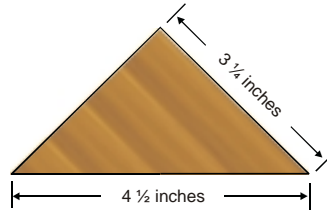

Figure 30 Plywood corner template
- Step 2:** Lay out the 45-degree corner cuts. It is helpful to create a template with the dimensions 3¼" x 3¼" x 4½" (Figure 30).